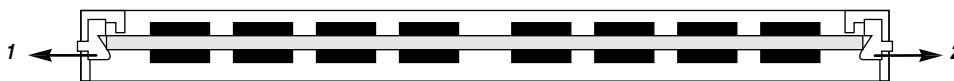

Figure 5-6 Releasing the SIMM spring clips
2. **To release a SIMM strip, push outward on the spring clip on one side of the SIMM strip. Then while supporting the SIMM, push outward on the other spring clip to release the SIMM from its socket. (See Figure 5-6, arrows marked 1 and 2.)**